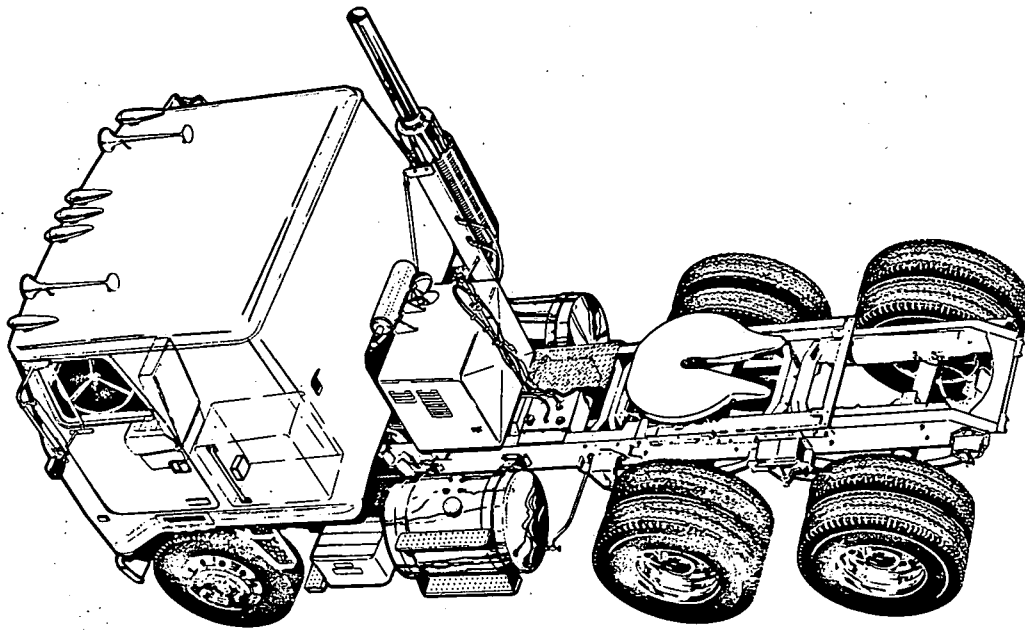

FIG. 1
Install remote fuel tank using the assembly sequence illustrated in Figure 1. Perform the steps in order listed to minimize installation problems.
2. Position the two L-shaped mounting brackets on the inside (underneath) of the top truck frame rail flange (one on each side), so that weld nuts in brackets line up with pre-drilled mounting holes in fuel tank flanges as shown in Figure 1. The rubber vibration isolator pads on both the fuel tank flanges and fuel tank mounting brackets must contact the truck frame rail flange.
spacing and drilling new mounting holes in fuel tank flanges. When installed, the vertical surface of the mounting bracket should rest against the side of the fuel tank and the wider surface area of the mounting bracket (surface with rubber isolation pad) should be relatively close to radius of truck frame rail. See detail A in Figure 1. If not, new 3/8 inch mounting holes will have to be spaced and drilled in fuel tank flange as required so that fuel tank is held securely in position.
3. Install 5/16-18 x 1-1/2 inch hex head capscrews and lockwashers in center mounting holes only (one on each side). Mounting hardware assembly sequence is shown in Figure 1, detail A.
4. The 18 inch 12-gauge static ground lead must be installed under the most convenient fuel tank mounting screw as dictated by physical location and layout of truck chassis components in each installation. Fuel tank terminal end of ground lead is a 5/16 inch eyelet terminal. Install this terminal under most convenient 5/16 inch capscrew and lockwasher on top of fuel tank mounting flange. See Figure 1, detail B. The remaining chassis end of static grounding lead has 1/4 inch eyelet terminal. Locate a nearby hole in truck frame rail within reach of the lead and attach terminal with 1/4-20 x 1 inch screw, lockwashers, and nut. Hardware assembly sequence is shown in Figure 1, detail C.
5. Install three remaining 5/16-18 x 1-1/2 inch hex capscrews and lockwashers in fuel tank mounting brackets. Hardware assembly sequence is shown Figure 1, detail B. Torque all six mounting screws 24 inch pounds (2.7 N•m).